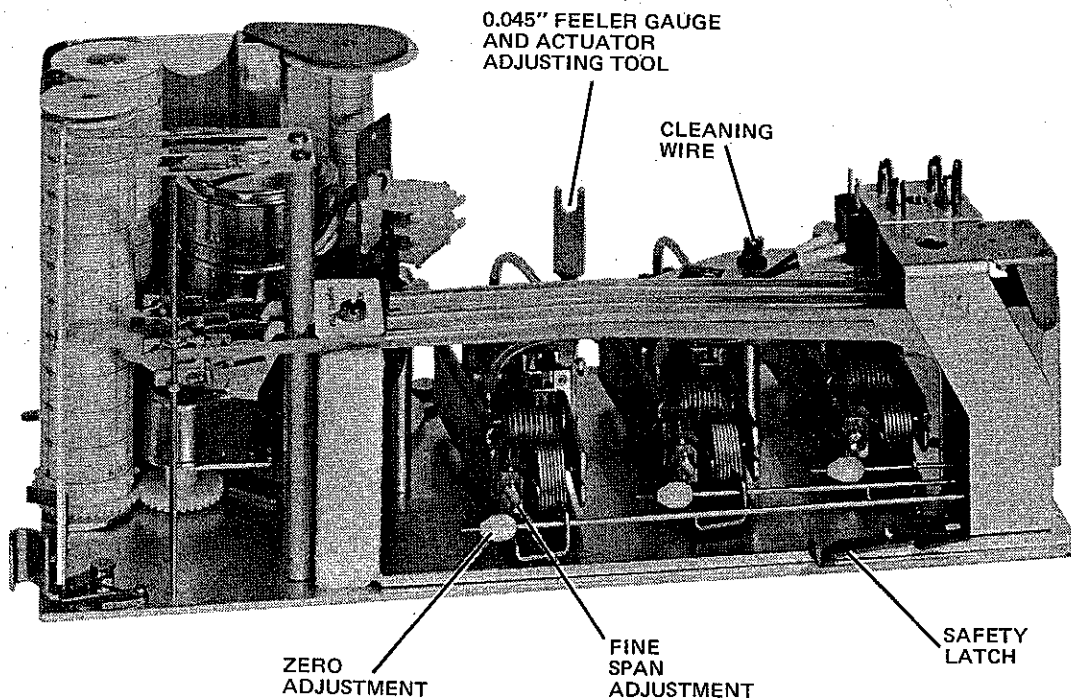
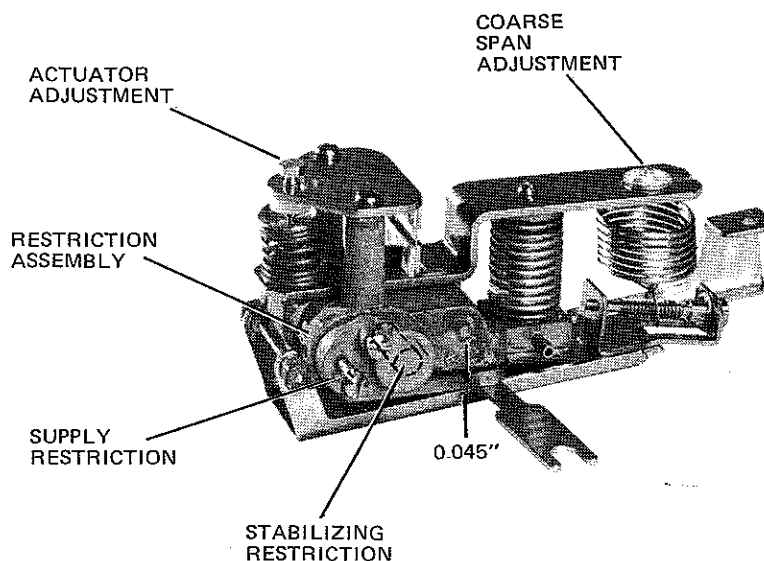

FIGURE 11 Adjustments and Tools
FIGURE 12 Actuator
Zero Adjustment (See Fig. 11)
Span Adjustment (See Fig. 11)
Coarse Span Adjustment (See Fig. 12)
2. Use the adjusting tool (see Fig. 11) as a feeler gauge to check for a 0.045 inch gap between the motion arm and actuator body. Check the gap at the point shown in Figure 12.
1. Remove the tubing from the actuator supply restriction (Fig. 12).
2. Take the cleaning wire (Fig. 11) and push it through the supply restriction.
1. Remove the two screws on the restriction assembly (Fig. 12).